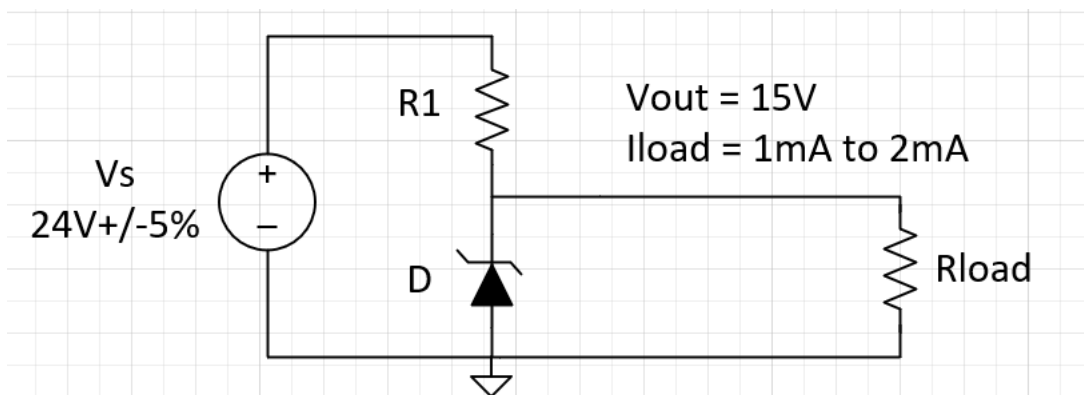

Figure 6-1. Voltage Regulation Zener Application Example
In this example, a preferred zener diode to generate a 15V system rail from a 24V input source is selected. Figure 6-1 displays an example of using a zener diode for voltage regulation. The calculations below outline considerations for selecting the zener diode (D), sizing the series input resistor (R1), and verifying the zener diode ratings are not exceeded. The series resistor is used to limit zener current I_z to the device.